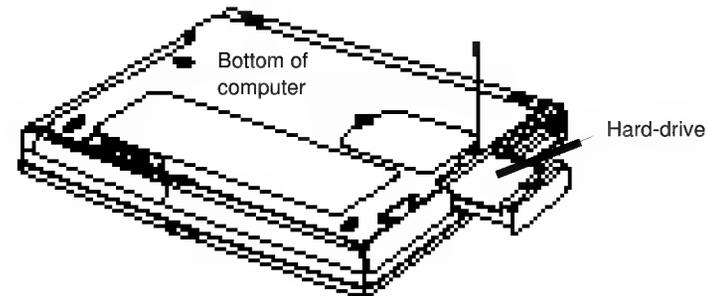

Figure 15. Removing the Hard Drive
4. Remove the screw that holds the hard drive in place (Figure 15).